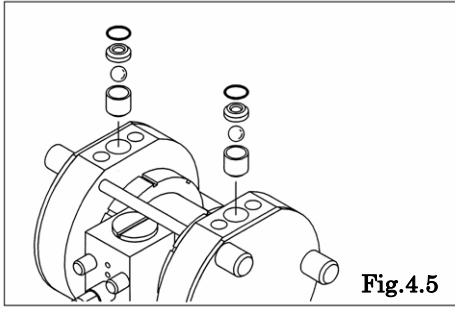

Fig.4.5
- Remove the O ring, valve seat, ball and valve stopper. [Fig.4.5]